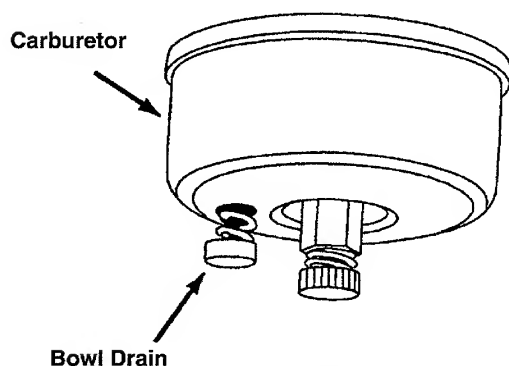

Figure 29
- Drain carburetor by pressing upward on bowl drain, located below the carburetor cover. See Figure 29.
- Remove the spark plug and pour one (1) ounce of engine oil through the spark plug hole into the cylinder. Crank the engine several times to distribute the oil. Replace spark plug.